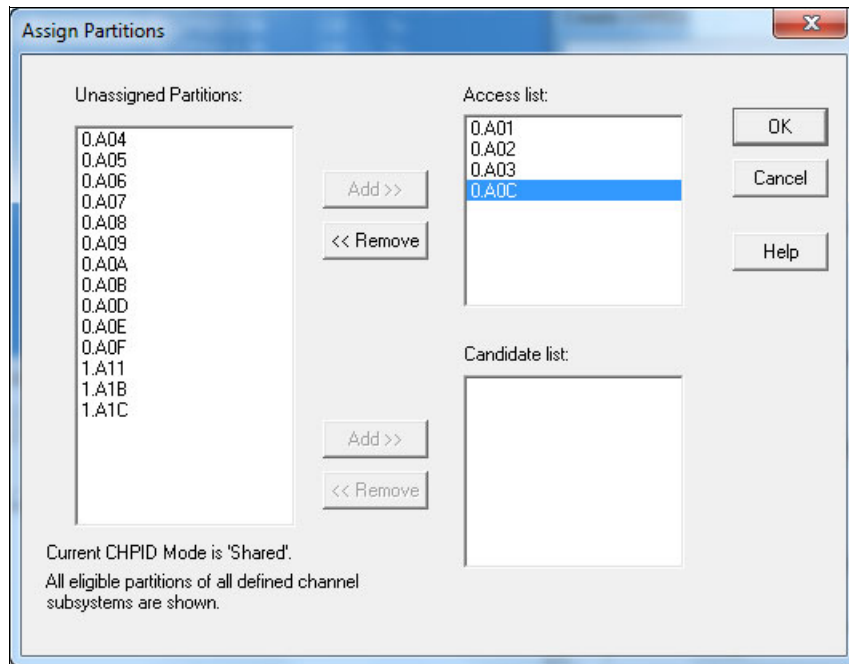

Figure 6-27 HCM - Assign Partitions: selecting partition for CS5 CHPID access
- Select the required Access and Candidate LPARs for CHPID access list. In our example, we use LPAR A0C (CF) and A01, A02, and A03 (OS), and no Candidate LPARs. Then click **OK** (Figure 6-27).